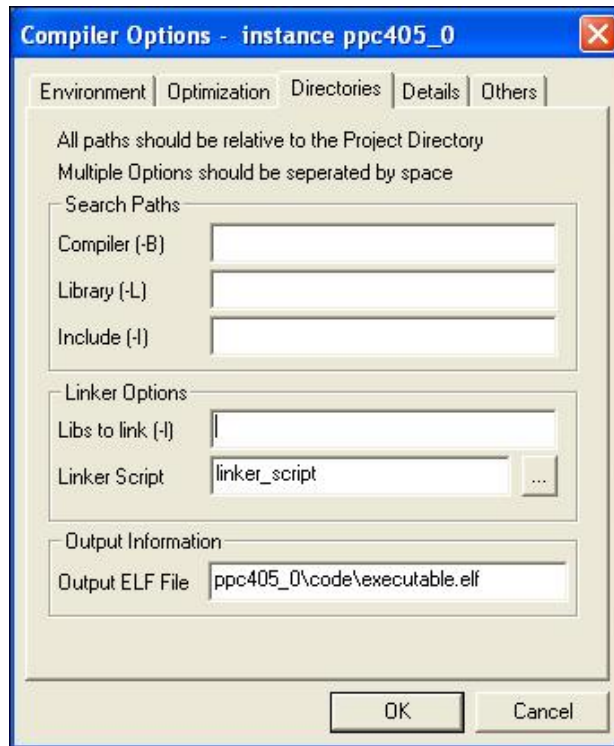

Figure 1. Compiler Options for the PPC405 Instance
- 5) In the Compiler Options dialog shown in figure 1, select the linker script just created.